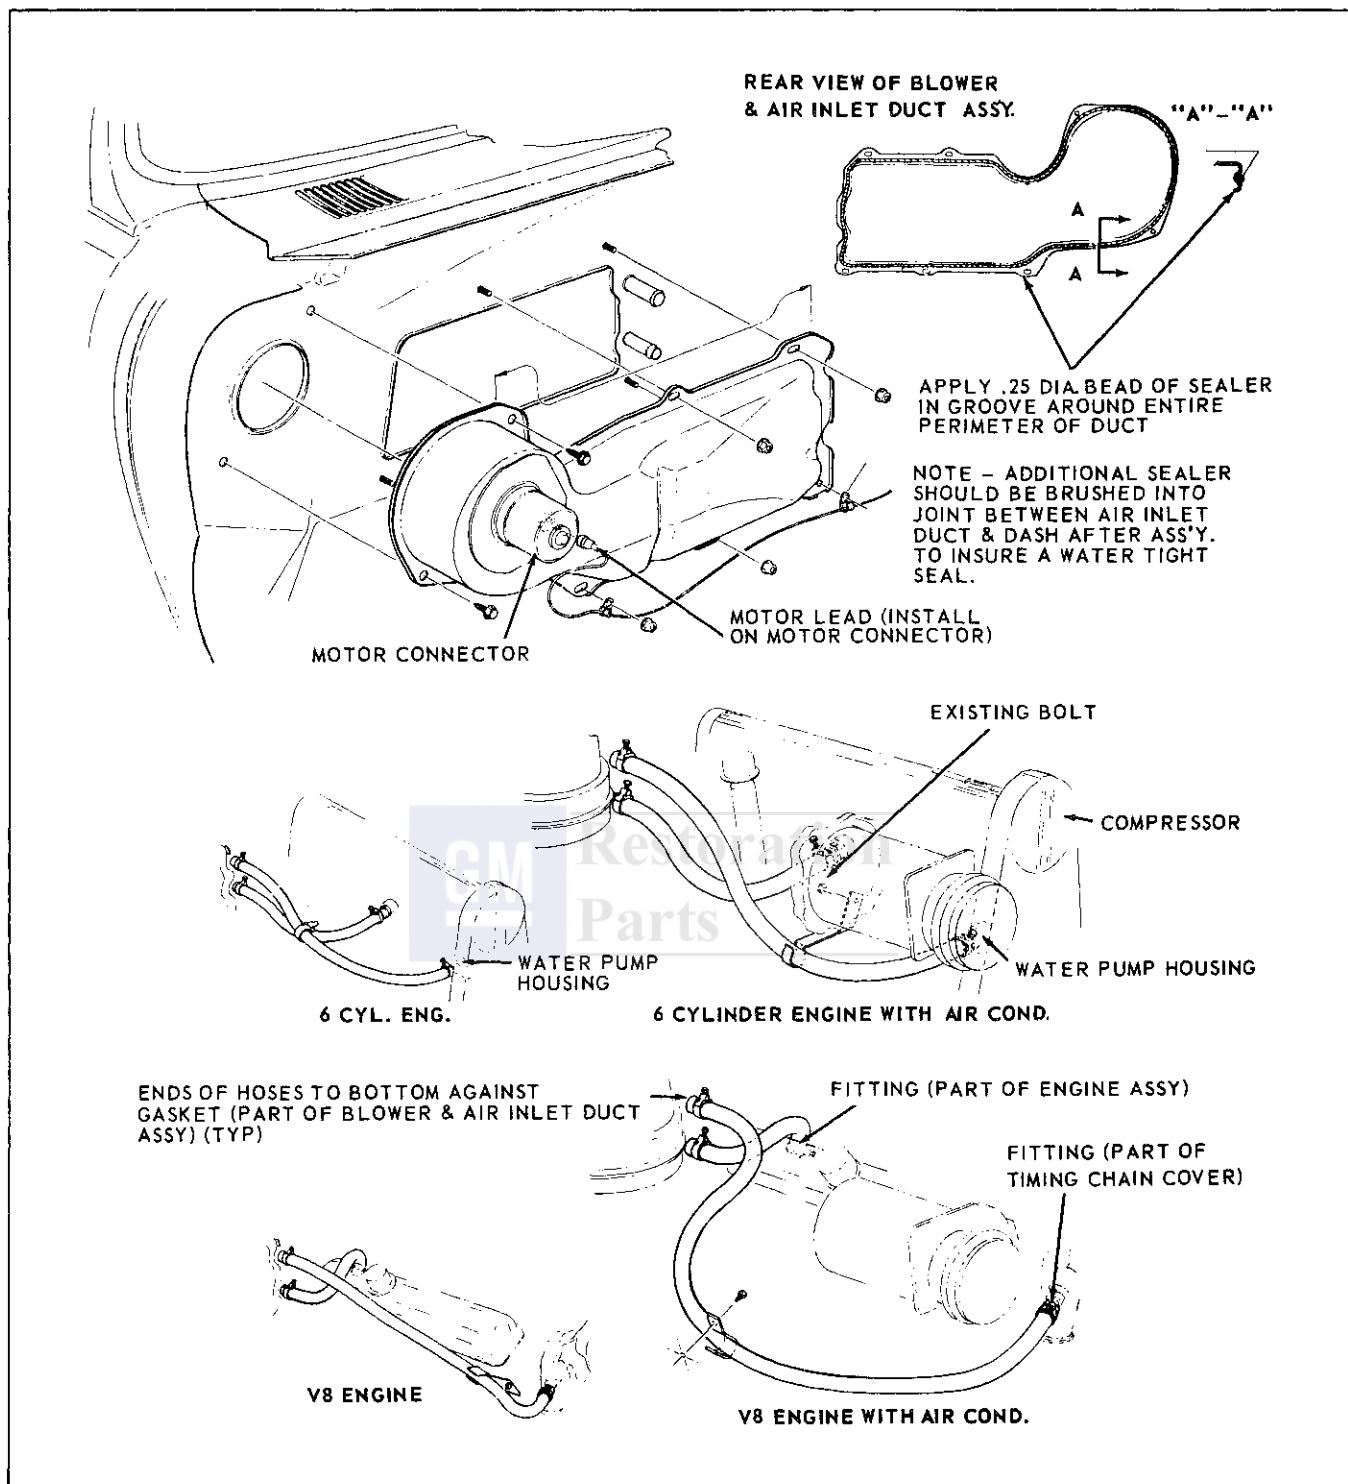

Fig. 1-8 Engine Compartment Details—Tempest
1. Remove battery and tray (Fig. 1-8)
TEMPEST (Fig. 1-8)